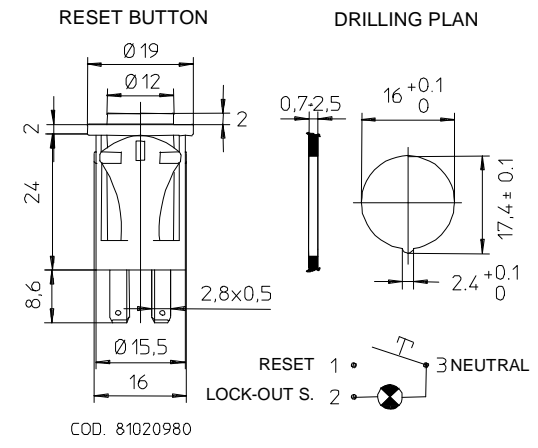
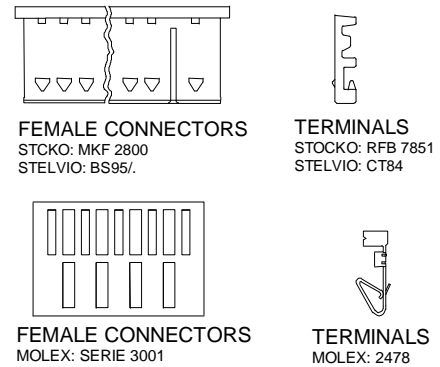

Fig.2
Fig.3
- (1) This contact is not isolated from the main supply voltage by reinforced isolation, therefore the relay contact is not suitable to supply SELV circuits – Safety Extra Low Voltage.
- (2) Standard connectors are Stelvio/Stocko models, see Fig.2.
- (3) The controllers in compliance with EN298:1993 can be employed exclusively as spare parts.
- (4) The controller shows on the label option "#" and the note "EN 298:2003 compliant".
- (5) Flame failure during TS causes spark restoration.
The control units can be supplied complete with connectors and light reset push-button (see Fig.2 and Fig.3).